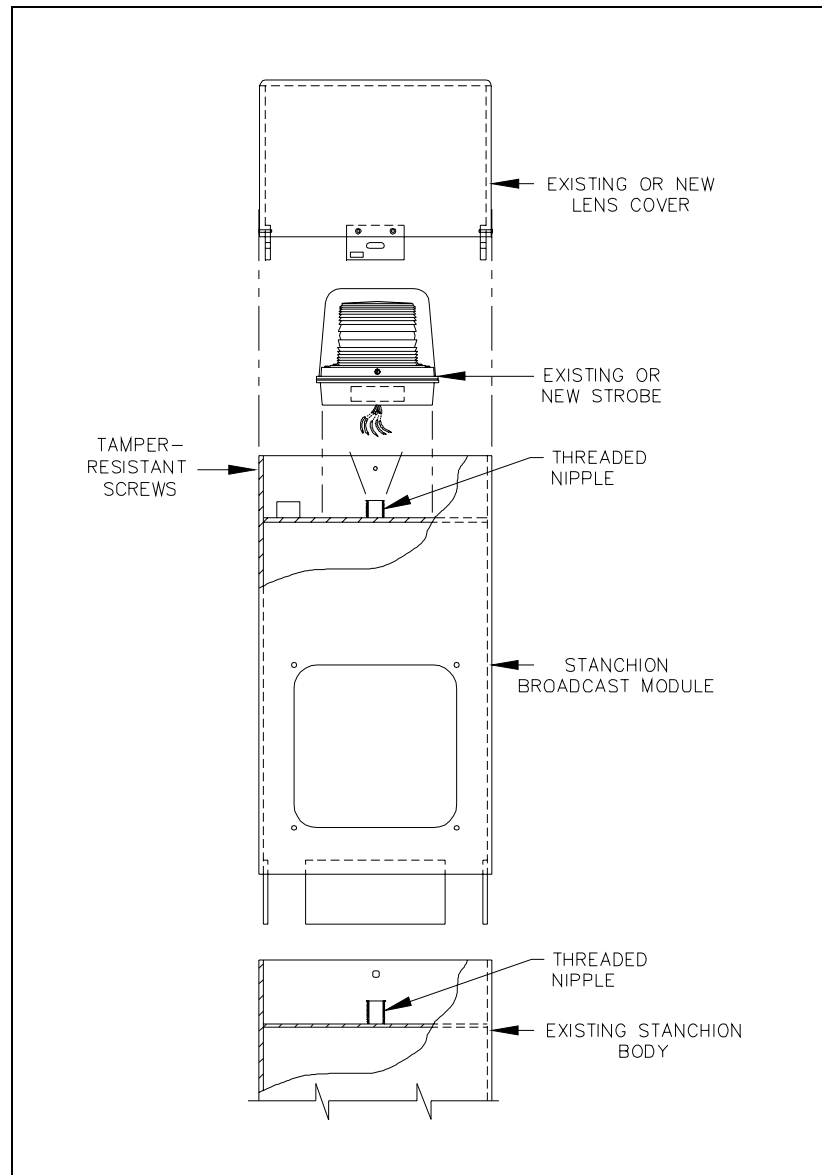

Figure 2.
1. Insert the new strobe's seven 15-foot wires through the stanchion module's threaded nipple (center hole), and through the threaded nipple on the existing stanchion. Allow the wires to extend to the base of the stanchion. See Figure 2.